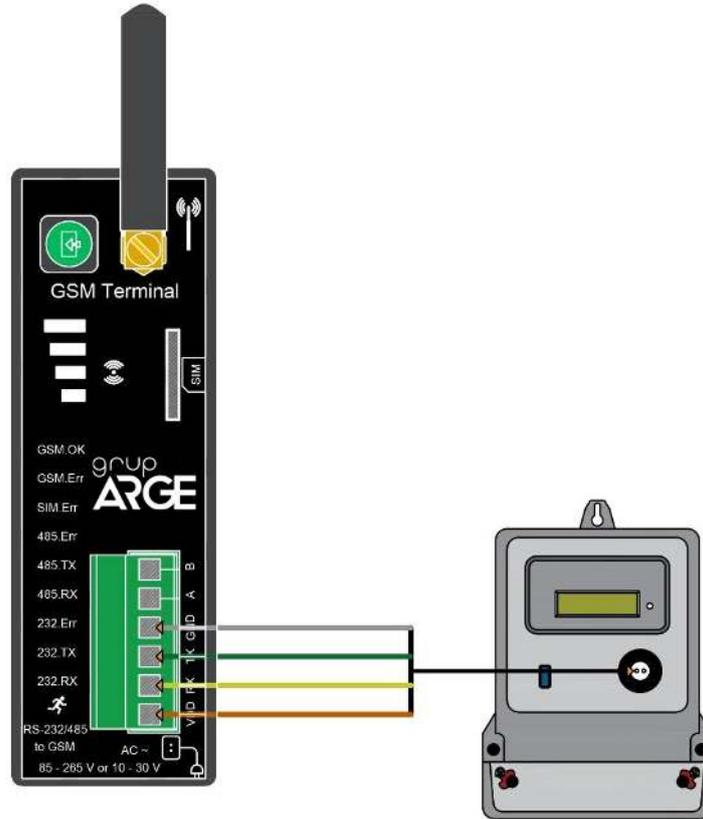

Figure 4.1
- d. Modbus Device (Relay, analyzer etc.) / RS-485: See. Figure 4.1; 4.2